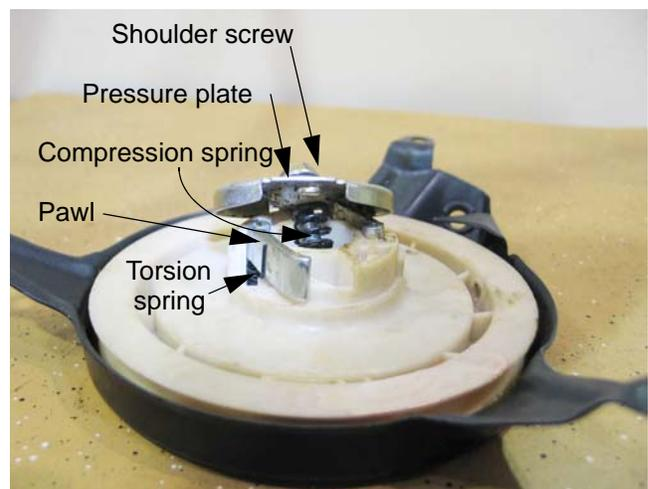

Figure 6.12
7. Install the torsion springs and pawls so that the long arm of the spring reaches outside of the pawl, and draws it toward the center of the assembly. See Figure 6.12.